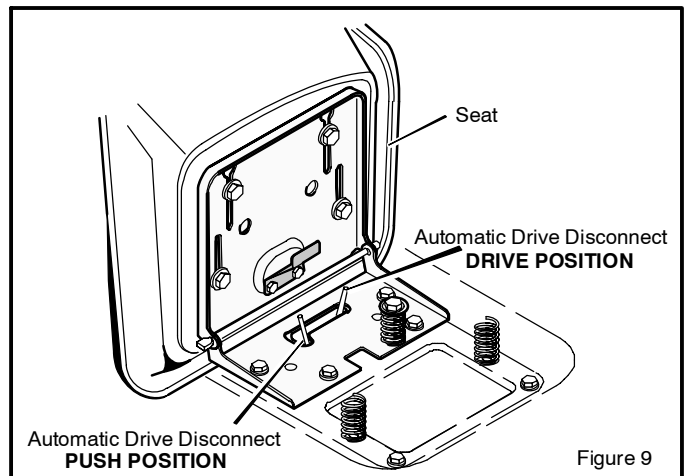

Figure 9
1. The **automatic drive disconnect** must be in the DRIVE position (Figure 9).
3. Move and latch the **automatic drive disconnect** in the PUSH position (Figure 9). The transmission is now *released* and the unit can be pushed.